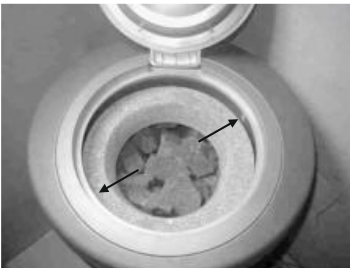

Figure 3
- Loosen the allen screws (2 pcs, see arrows in figure 3) on the inside circumference of the rotating ring so that the rotating ring can be lifted away. NOTE! Don't loosen the screws entirely as they may fall inside the heater.
- Next install the rotating ring with lids into its location (see figure 3).